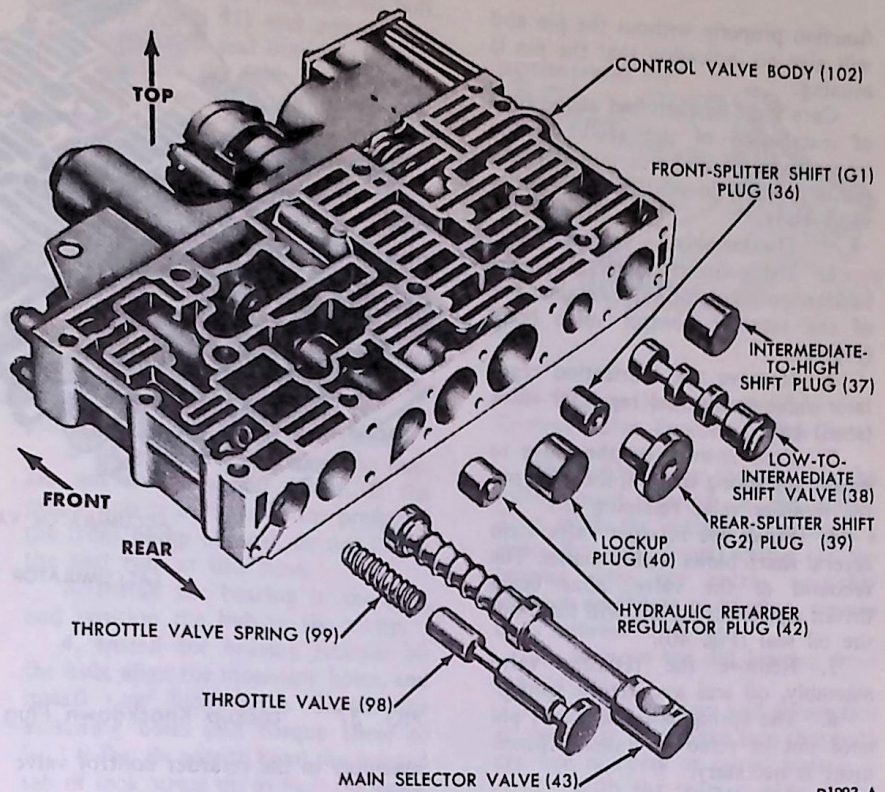

FIG. 34 Control Valve Body—
33. Install the cover (21) on the overcontrol valve body (19) and retain it with one screw (22).
34. Install the splitter shift plug spring (28) in the recessed end of the overcontrol valve (20), previously installed in the body (19).
35. Install the splitter shift plug spring (28) overcontrol valve body (19), valve (20), over (21) and screw (22) on the valve body front cover. Install two screws (23), but do not tighten them at this time.
36. Install the intermediate-to-high shift plug (37) (Fig. 34) low-to-intermediate shift valve (38), front splitter plug (36), rear-splitter shift plug (39), lockup plug (40) and the hydraulic retarder regulator plug (42).
37. Install the manual selector valve (43), the throttle valve spring (99) and throttle valve (98).